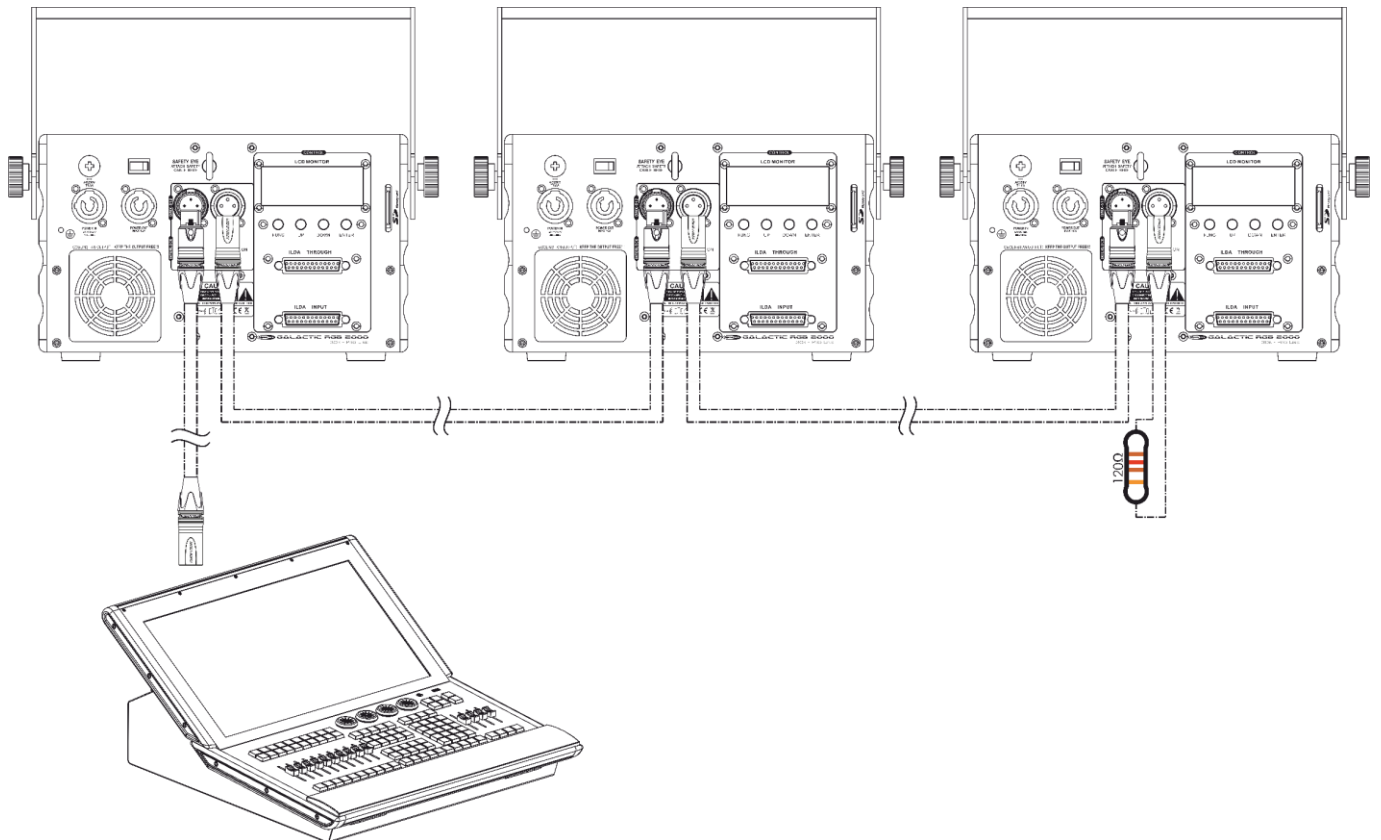

Fig. 13
- 03) Repeat step 2 to connect all devices in a daisy-chain as shown in Fig. 13.
- 04) Insert the included SD card into the **SD slot (13)** on each connected device.